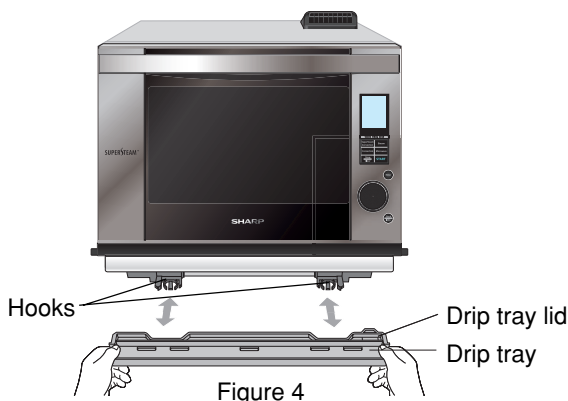

Figure 4
The drip tray and the lid are packed with the oven. Place the drip tray and lid under the oven door as shown in Figure 4. This drip tray collects the condensation from the oven door.
**To replace the drip tray:** Place the drip tray onto the right and left hooks under the oven and push firmly as shown in Figure 4. Insert the drip tray horizontally when you attach it. Improper use may cause the damage to the hooks.